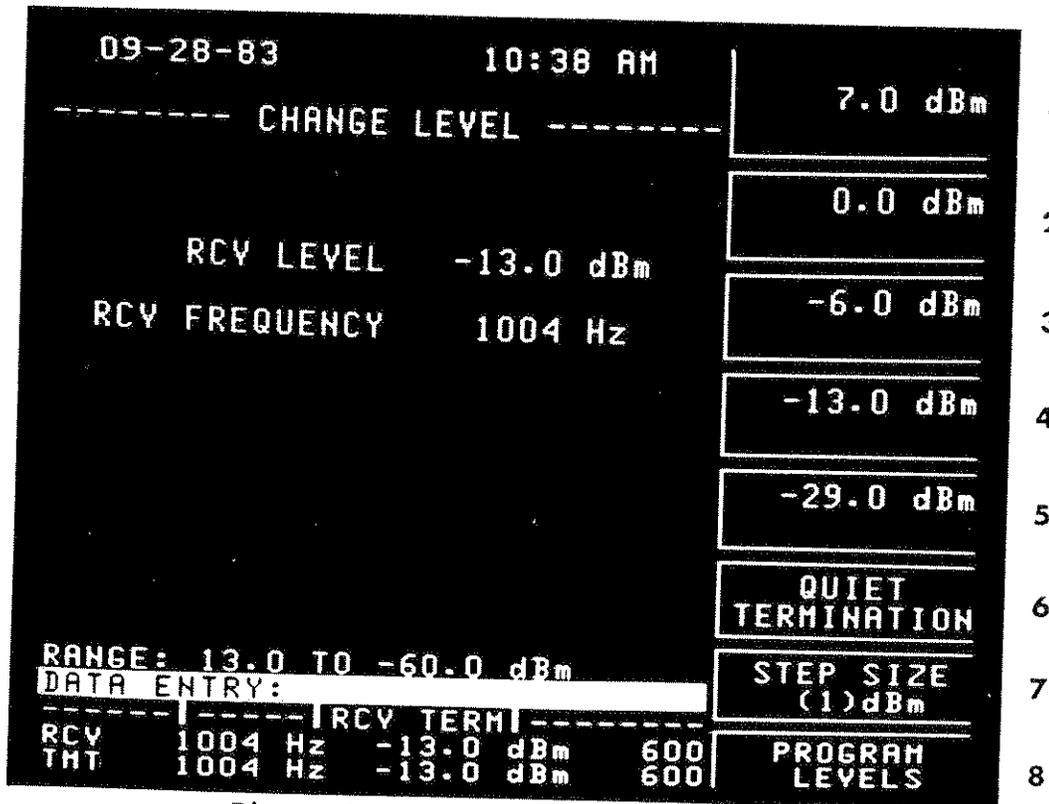

Figure 3-5. Level Softkey Selections
**Programmable Levels** - When the LEVEL hardkey is pressed, the softkey selections shown in figure 3-5 appear (Note: The values may be different). To change the level, press the corresponding softkey.